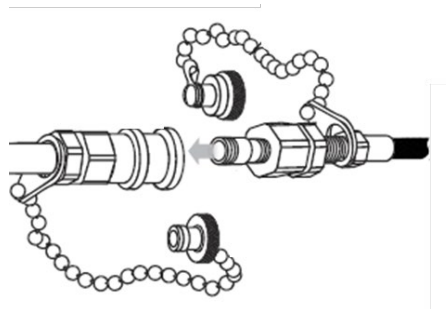

Figure 8: Connecting the Sampling Assembly
k. Connect the sampling assembly to the sampling valve connection by inserting the sampler nipple into the quick-connect valve collar (Figure 8). Retract the valve collar and insert the nipple firmly into the valve. Release the collar when the nipple is seated.